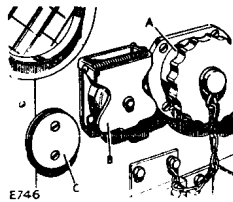

Fig. 105. Warner and NATO trailer plug sockets
262. A NATO 12-pin trailer socket is situated on the left-hand side body rear panel. The sockets are protected by a spring-loaded flap. (Fig. 105 (B)). See circuit diagram for wiring connections.
263. A 4-pin Warner trailer socket is situated to the right of the NATO socket (Fig. 105 (A)). It is protected by a screw cap secured by a chain fastener. An adaptor is provided to the left of the NATO socket to retain the screw cap when the trailer plug is connected. See circuit diagram for wiring connections.